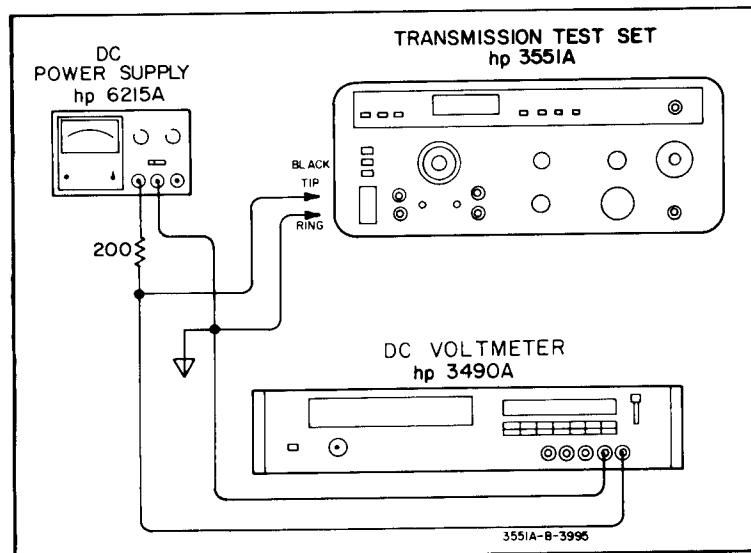

Figure 5-8. Holding Loss Test Setup.
- a. Connect the equipment as shown in Figure 5-8 with the Test Set disconnected.